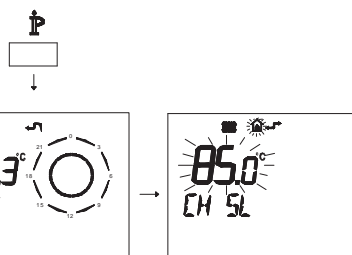

Fig. 7.21
- Press button **P** for more than 3 seconds to enter in **INFO** (Fig. 7.21) mode.